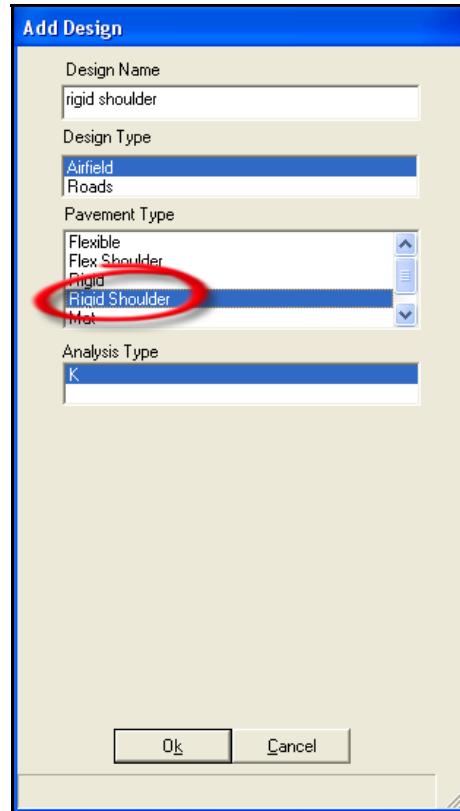

Figure 4-22. Creating a Rigid Shoulder Design
- (1) On the PCASE Design Module window, select the **Add** button under the design grid.
- (2) On the Add Design window, enter a design name in the Design Name text box.
- (3) From the Design Type list box, select Airfields.
- (4) From the Pavement Type list box, select Rigid Shoulder (Figure 4-22).
- (5) Click **Ok**.
- (6) After you enter the required information on each window (PCC, Drainage, and Subgrade), click the **Ok** button to continue.
- (7) After you enter all the layer information and add any additional layers required, click **Save and Calculate** to calculate your design.
- (8) If the pavement will be used by support vehicles (e.g., snow removal equipment, fire trucks, fuel trucks), the shoulder should be checked by creating a road design. You will need to create a traffic pattern that includes the support vehicles using the shoulder and create a design using Roads as your design type. Compare the results of the Shoulder and Roads designs; the governing design will be the one that produces the thickest section.